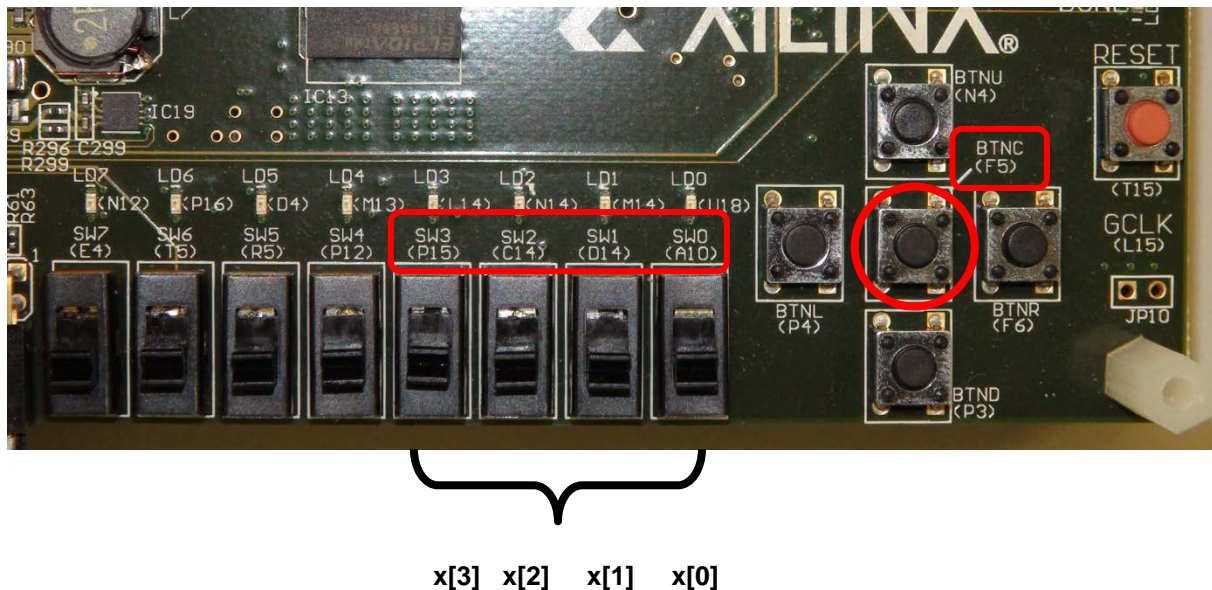

Figure 4: Switches and pushbuttons on the Xilinx FPGA board
- 5.3.3 Double click on the added UCF file to open it up and note the given mappings of the logic inputs/outputs from `vsevenseg.v` to the FPGA board. The inputs `x[3:0]` are mapped to the switches SW3, SW2, SW1 and SW0 shown on Figure 4. Edit the UCF file and **add in the remaining mappings** shown in Table 2 (**except for `tgout` which is not used in this part**). Note that for every I/O (i.e. input/output) pin, two statements are required:
- 5.4.3 Before the modified circuit can be implemented, you must specify the connections to be made to **left** and **tglout**. Edit the UCF to achieve this. Insert additional statements into *sevenseg.ucf* such that **left** is mapped to pushbutton F5 (BTNC on Figure 4), and **tglout** is mapped to T4 (see Table 2 rightmost column). Refer to 5.3.3 for the correct syntax. **Save all**.